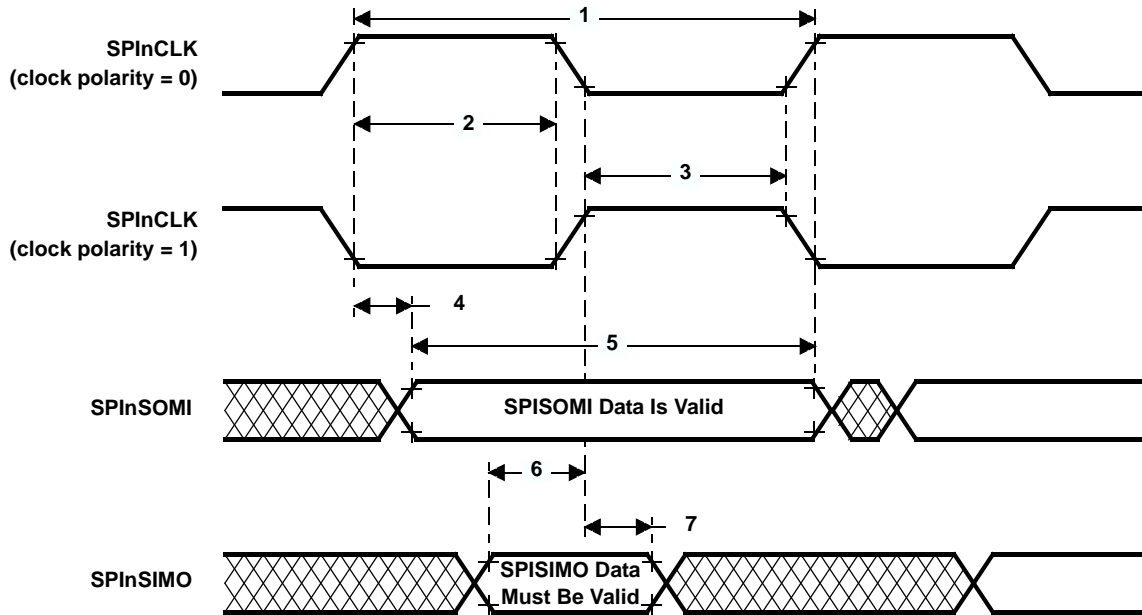

Figure 15. SPIn Slave Mode External Timing (CLOCK PHASE = 0)
**SPIn slave mode external timing parameters (CLOCK PHASE = 0, SPInCLK = input, SPInSIMO = input, and SPInSOMI = output)(1)(2)(3)(4) (see Figure 15)**